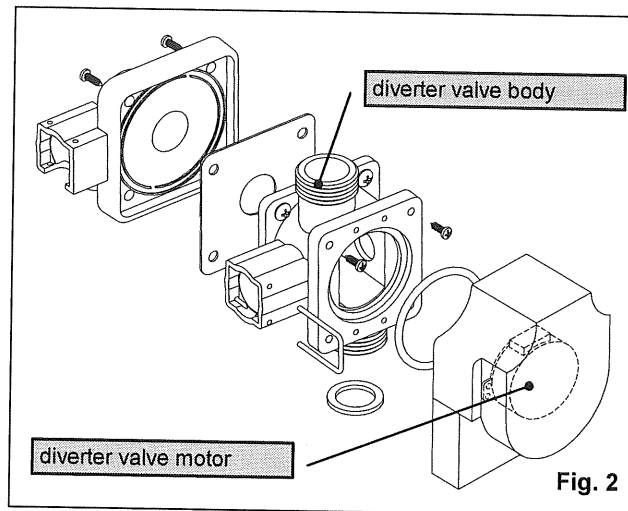

Fig. 2
**Diverter valve** (see fig. 2)